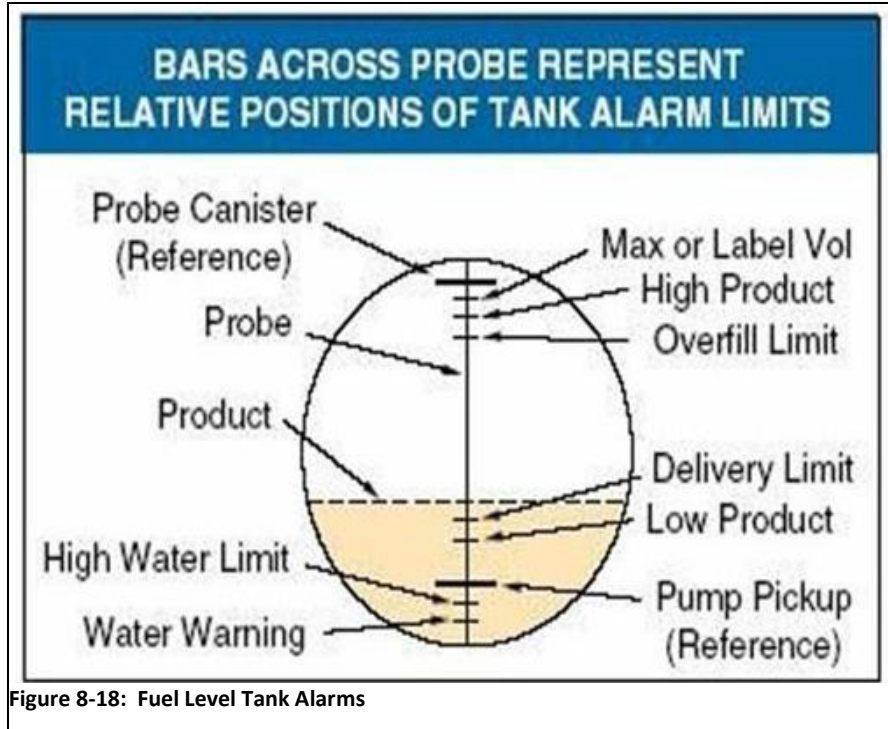

Figure 8-18: Fuel Level Tank Alarms
- An overfill condition exists when, during a fuel drop, the gasoline level in the UST exceeds the overfill alarm setting, which is 90% capacity of the UST. **See Figure 8-18.**